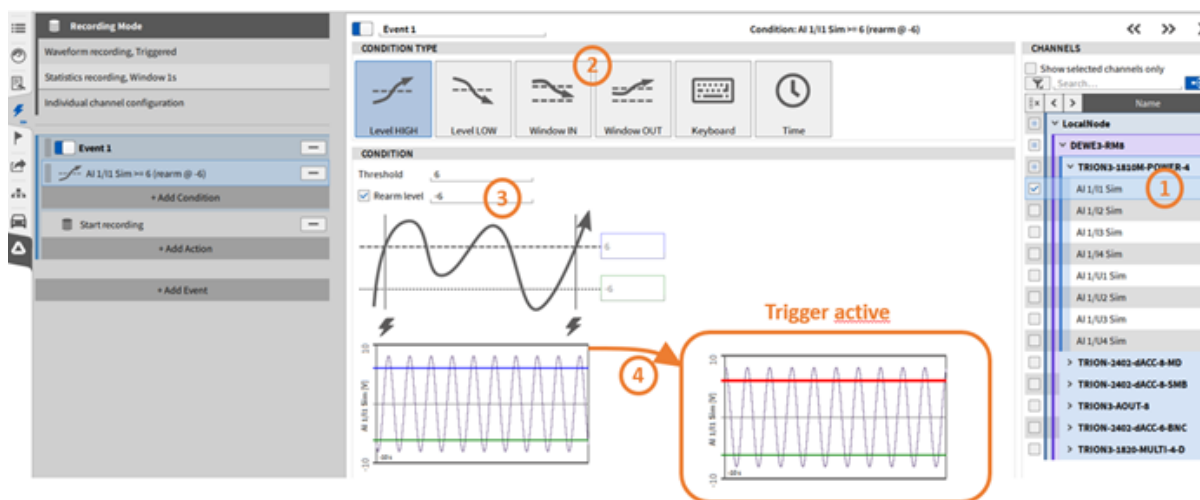
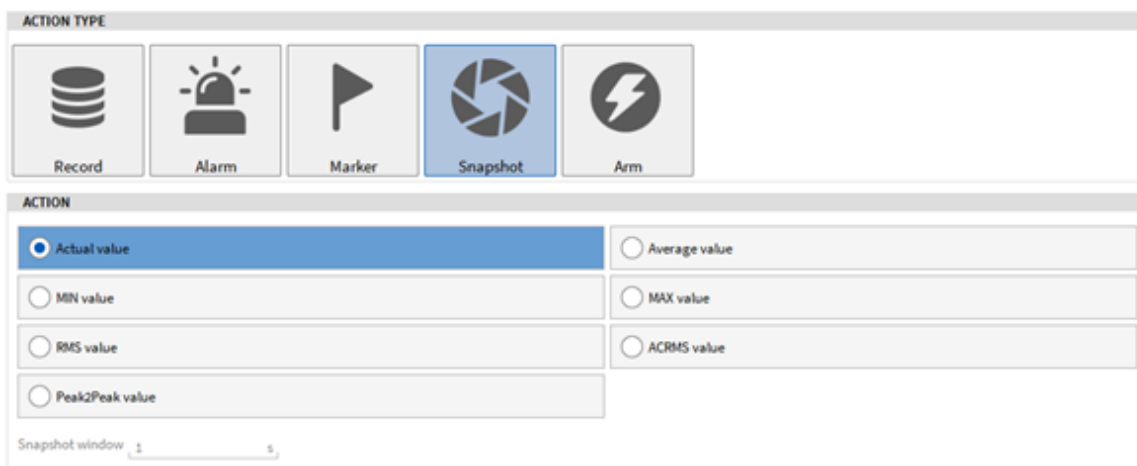
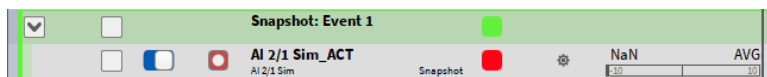

Fig. 9.6: Define an Event Condition and Trigger on *Level HIGH*
Fig. 9.20: Trigger - Snapshot Action
Fig. 9.21: Snapshot channel in the Channel List
The channel to be triggered on can be selected from the channel list on the right screen side (see ① in Fig. 9.6). After selecting the channel, a preview window is displayed (see ④ in Fig. 9.6). The measuring range displayed in the preview window is the set measuring range of the channel to be triggered. The preview window also contains the set threshold and rearm level. As soon as the threshold value is exceeded and the trigger is active, the line for the threshold value in the preview window changes color from blue to red. The user can select between six different event conditions (see ② in Fig. 9.6):
- **Level HIGH:** Activate Event if selected signal exceeds defined Threshold. A *Rearm* Level that must be passed before the trigger is activated again can optionally be defined (see ③ in Fig. 9.6).
The Snapshot action can be used to query the Actual Value, Average, MIN, MAX, RMS, ACRMS or Peak2Peak value of one or several channels that may be selected on the right-hand side of the menu (see ① in Fig. 9.6) and copy this value to a new channel. This channel is added to the Channel List and can be found in the *Snapshot: Event x* section (see Fig. 9.21). If a statistical value is selected, the calculation time interval can be defined in the *Snapshot window* input field (see Fig. 9.20). The time interval is applied prior to the activation of the event.